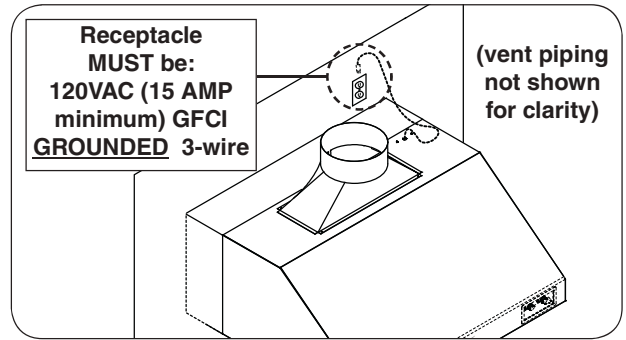
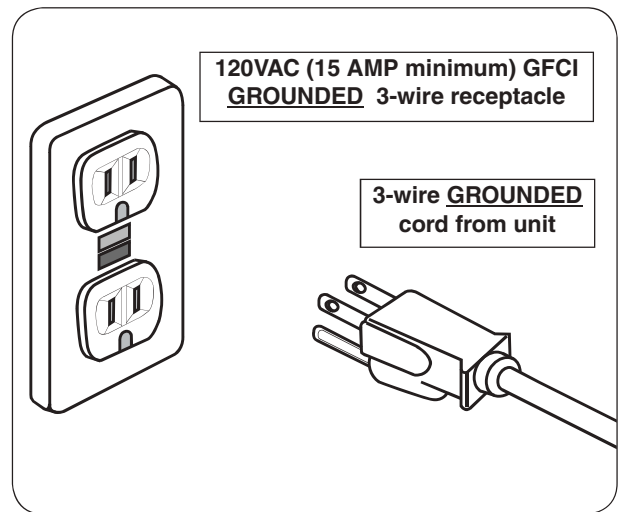

Fig. 18-1 Install receptacle & connect power cord
Fig. 18-2 Electrical setup detail
A **120VAC (15 AMP minimum) GFCI GROUNDED 3-wire receptacle** (not included) is required within the vicinity of the vent hood to provide power to the unit. The area above the vent hood that the soffit / duct cover will enclose is an ideal location (reference Fig 18-1). Your individual installation may vary. **Observe all local codes.**
1. Wire the receptacle above the top right of the unit (see Fig 18-1).
2. Connect the power cord coming from the top right of the unit to the previously wired **120VAC (15 AMP minimum) GFCI GROUNDED 3-wire receptacle** (see Fig. 18-1 and Fig. 18-2).